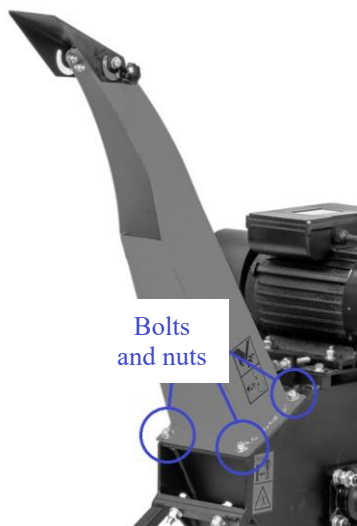

Fig. 6
- Position the discharge chute (14) onto the chipping chamber (1), ensuring the discharge opening faces outward.
- The discharge chute is secured to the chipping chamber at four corner points using bolts and nuts, as shown in Fig. 6.